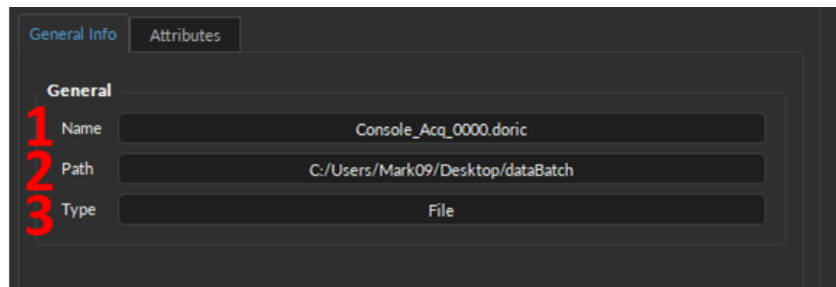

Figure 12.26: General info tab - File & Group branches
1. The **Name** (Fig. 12.26, 1) parameter displays the label given to the currently selected branch. For the **File** type, the **Name** is in fact the filename.
2. The **Path** parameter (Fig. 12.26, 2) displays the location of the selected branch (for **Group** and **Dataset** types) within the structure, following *Parent-Folder/Sub-Folder* syntax. For the **File** type, the **Path** is in fact the location of the computer where the *.doric* file is saved.
3. The **Type** parameter (Fig. 12.26, 3) displays which of three categories the selected branch belongs to:
-  **File** - This type is always the trunk of the **File Manager**. By definition, no other branch can be of the file type. In addition, information about the file path can be found in **General Info** tab (Fig. 12.26, 2) and information about the date of creation and software version can be found in the **Attributes** tab of this branch type.